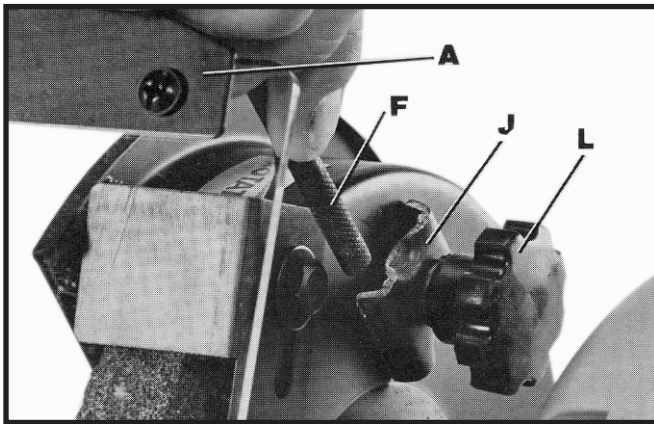

Fig. 6
3. Assemble long end of eye shield mounting rod (F) Fig. 6, to the side of each wheel guard using bracket (J), lockwasher and locking knob (L). The eye shield (A) is fully adjustable so it can be put in any position by moving the shield (A) or loosening locking knob (L) and repositioning rod (F).